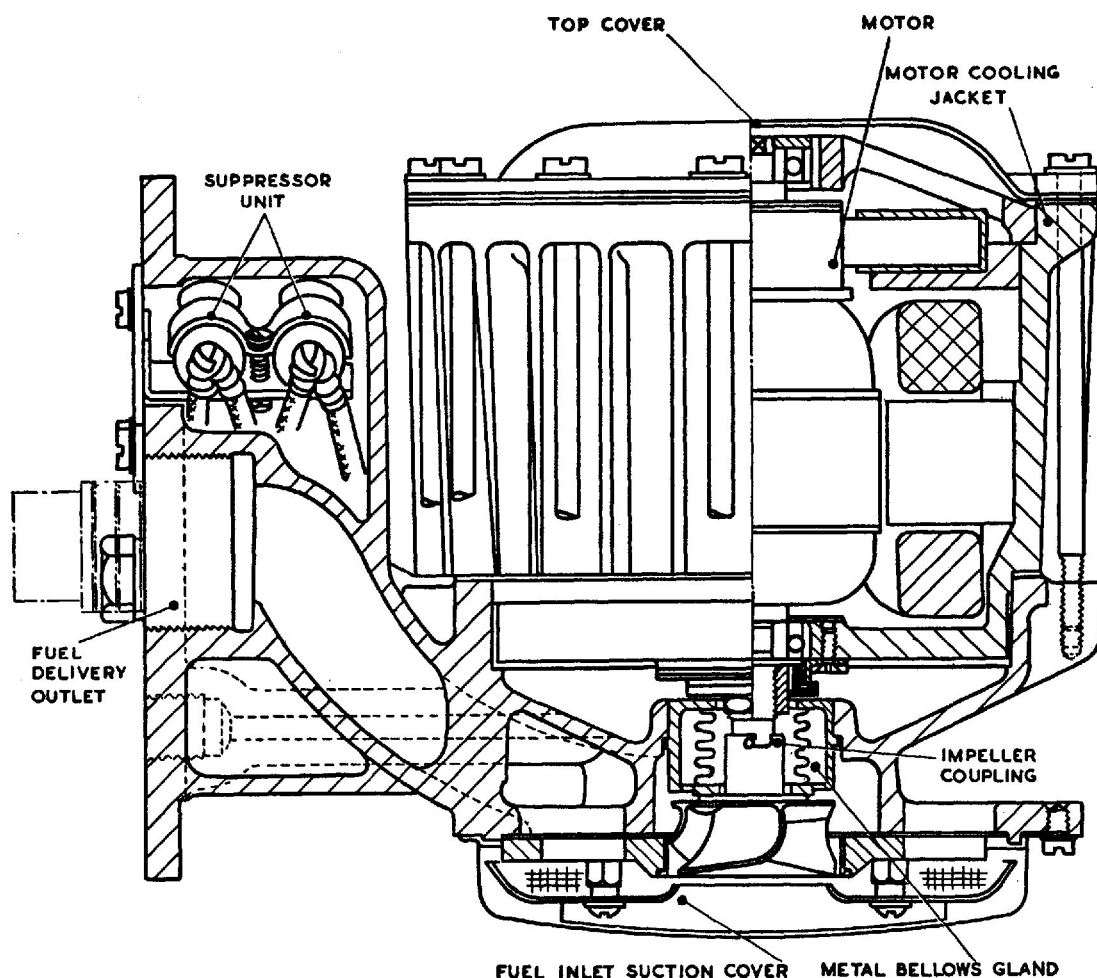

Fig. 1. Sectional view of pump
5. A sectional view of the pump is shown (fig. 1), and consists mainly of a driving motor, supported in the upper end of the pump body. The motor is protected from the ingress of fuel by a liquid-tight cooling jacket, and top cover, which surrounds it; this cooling jacket which is corrugated, is immersed in fuel. The fuel provides the cooling agent, and the corrugations of the cooling jacket assist in dissipating the heat generated by the motor.